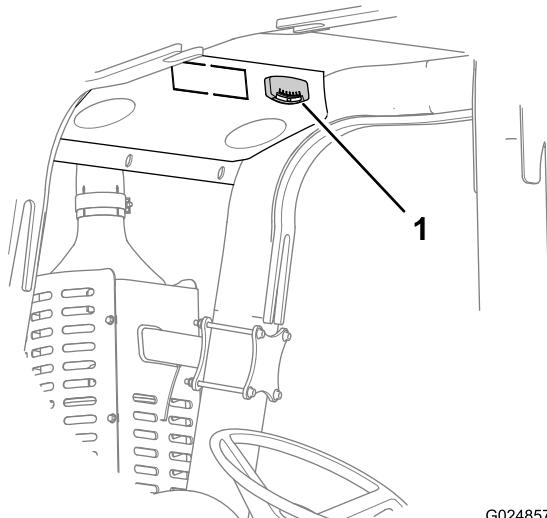

Figure 47
**Note:** Use the tilt gauge (Figure 47) to determine the degree of tilt at which the machine is operating.